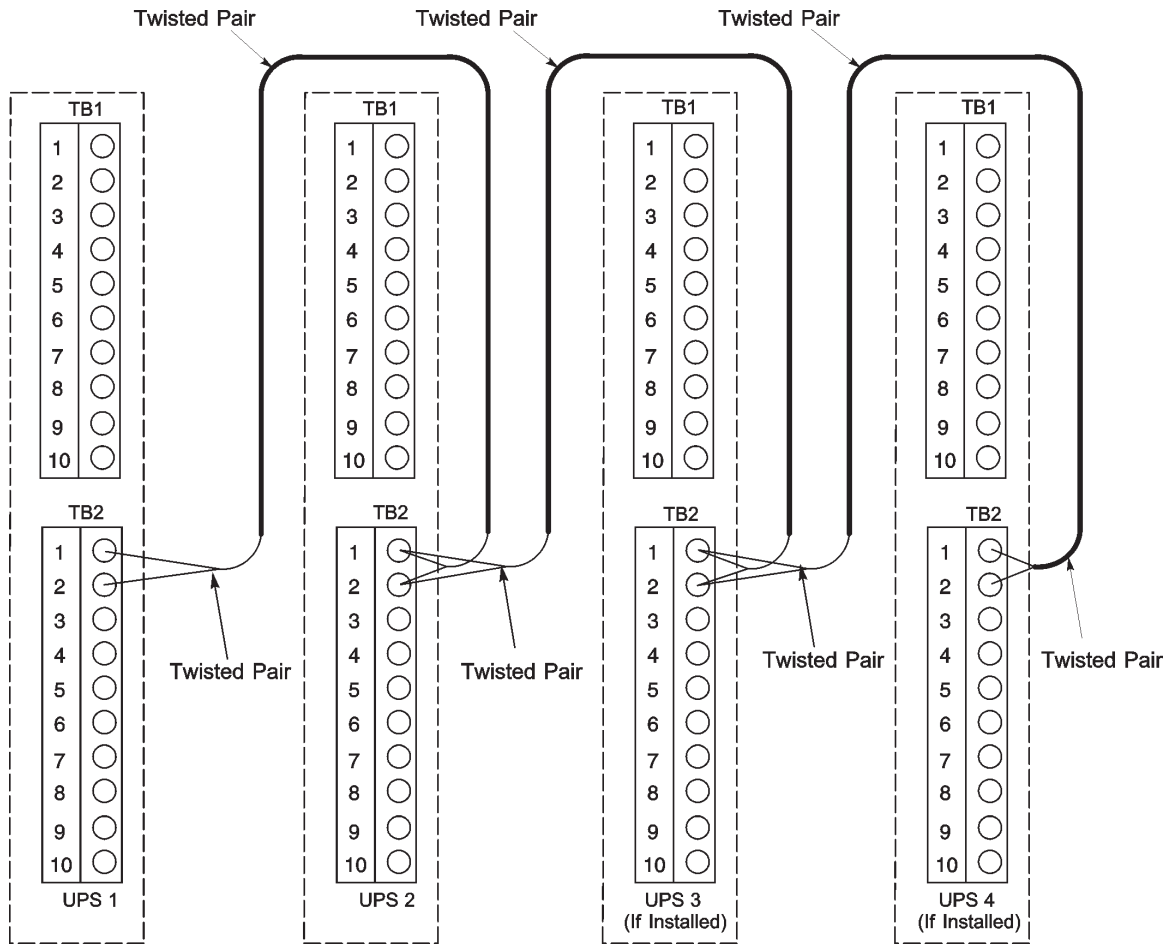

Figure 5-5. Distributed bypass Pull-Chain wiring without MOB
9. Route and install distributed bypass system pull-chain wiring between the UPS cabinets. See Figure 5-5 and Table 5-3 on page 75 for wiring information.
10. Snap the supplied ferrite around the pull chain cable near the TB2 terminals in the UPS. Refer to the Figures 5-5 and 5-6 for the ferrite installation.